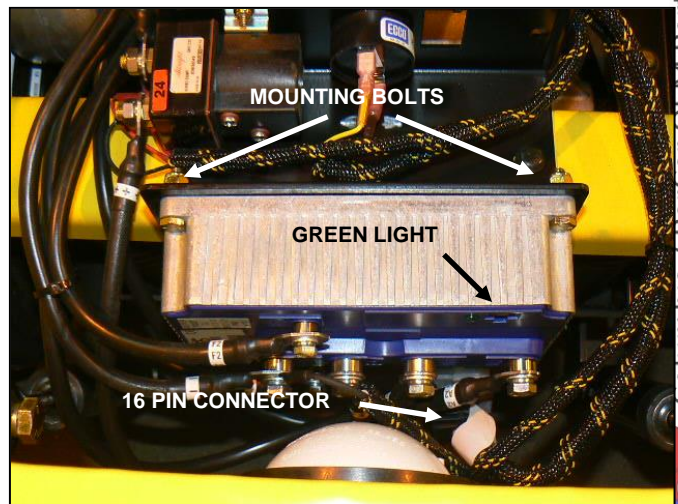

Figure 10-20
- Look for the steady green light on the side of the controller. If it is on, the system is OK and ready (Figure 10-20).
- Remove 16 pin controller connector (Figure 10-20).